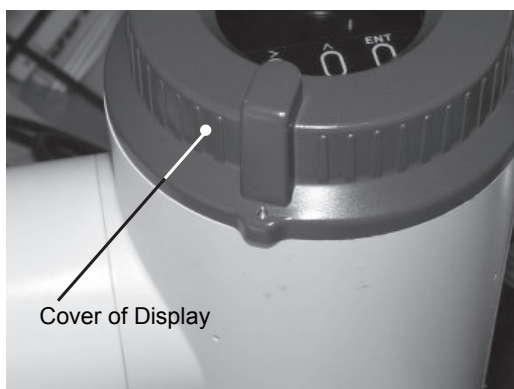

Figure 11.5 Cover of Display
- (1) Remove the display cover (Figure 11.5).